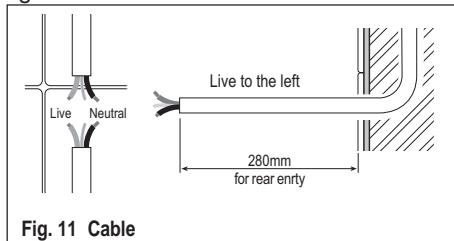

Fig. 11 Cable
5.4.2 For rear entry at least 280mm of cable is required protruding from the wall to allow connection to the terminal block, see fig. 11.